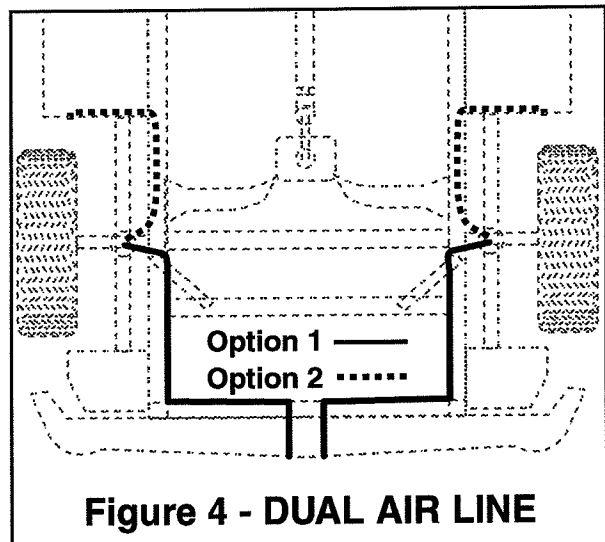

Figure 4 - DUAL AIR LINE
- Route air line along frame or under fender panel to inflation valve location (Figure 4). Attach air line to chassis with plastic straps or wire.